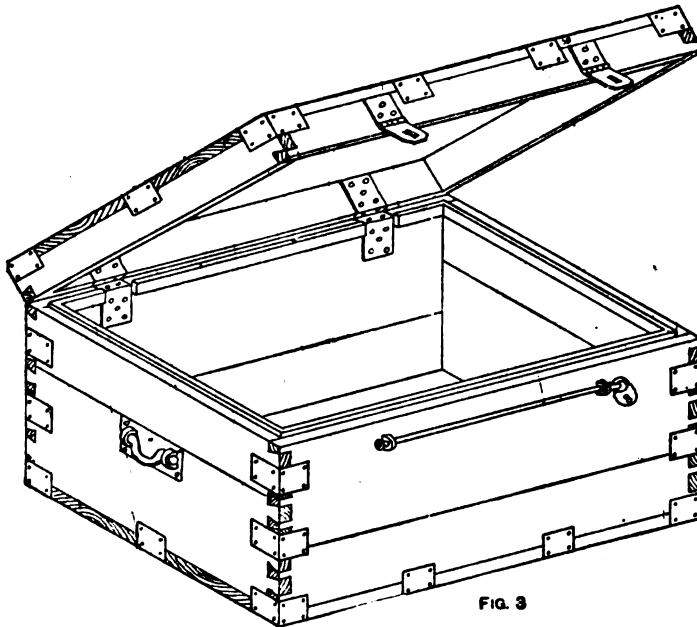
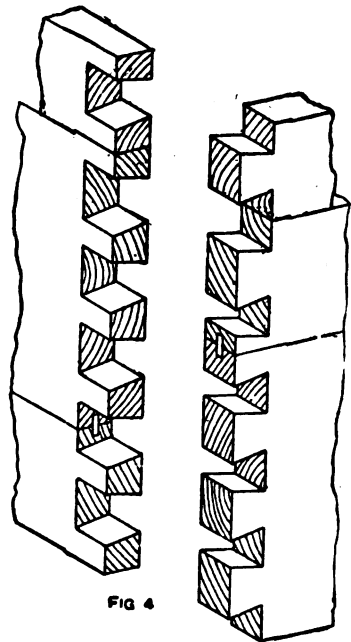
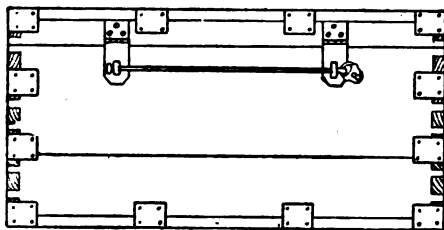
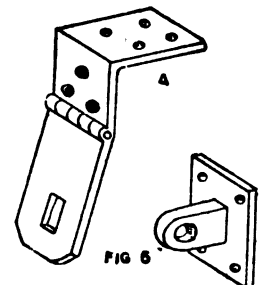

FIG. 3
FIG. 4
FIG. 1
FIG. 5
**Traveller's Sample Case.**—Figs. 1 to 5 show the construction of a traveller's sample case. Good red deal, birch, beech, or other similar hardwood,  $\frac{1}{2}$  in. to 1 in. thick, may be used, according to strength and other requirements. The angles should be dovetailed together, and the boards jointed and cross-tongued, as shown at Fig. 4. To prevent dust, etc., getting in, a fillet about  $\frac{1}{4}$  in. by  $\frac{1}{4}$  in. should be nailed round so as to project into the lid when closed (see Fig. 3). If the staples are made as shown at Fig. 5, they can be screwed to the front of the rim of the lid, and the returned piece shown at A (Fig. 5) can be let in and screwed to the underside of the lid; this will prevent it being broken off. The eye and plate can be made so that the eye